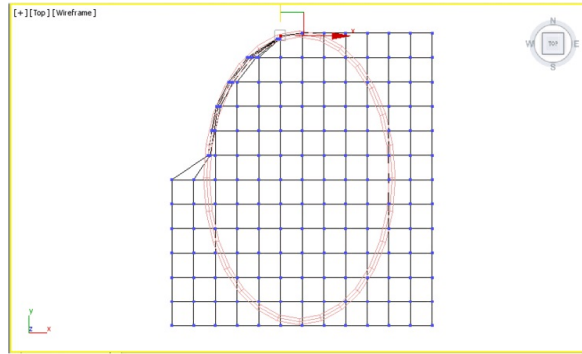

Figure 12-77 The objects after invoking the **Zoom Extents** tool
12. Choose the **Zoom Extents** tool; *head* and *stringed area* are displayed in the active viewport, refer to Figure 12-77.